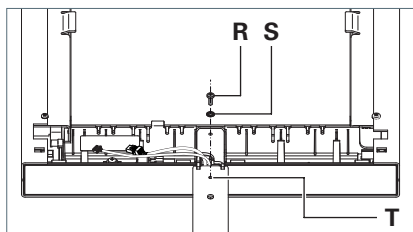

Fig. 9: Securing the luminaire head.
- Screw the screw **R** along with the toothed washer **S** into the bore **T** on the support tube and tighten the screw, see Fig. 9.